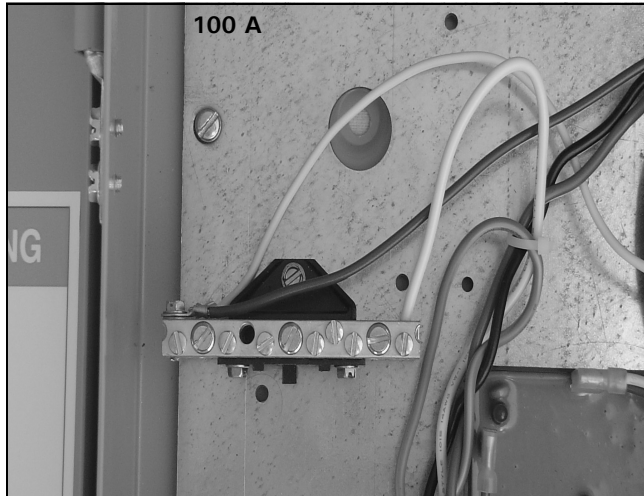

Figure 78. TVSS White Wire Connected to the 100 A and 200 A Neutral Bars.
Step 12: On 100 A standard ATSS, secure the white TVSS wire to a receptacle on the neutral bar using a blade screwdriver (see Figure 78).